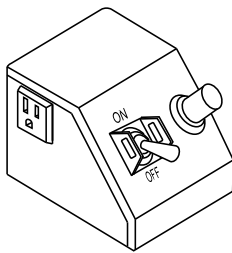

Figure 16. Power ON/OFF Switch (OFF)
1. Place the power ON/OFF switch (Figure 16) in the OFF position (down).